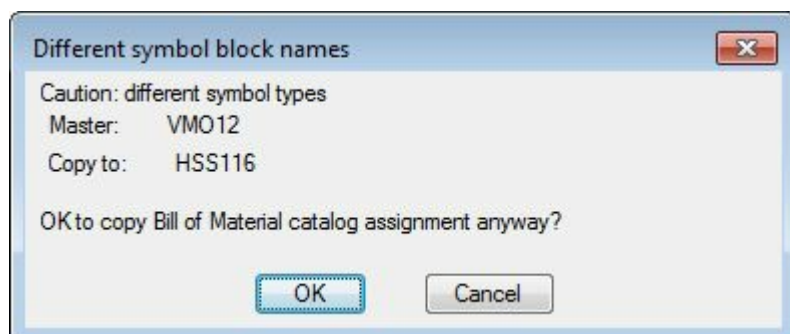

Figure-16. Different symbol block names dialog box
- Few of my friends might also get the **Different symbol block names** dialog box; refer to Figure-16. This dialog box comes if you are assigning properties to an incompatible component. For example, if you are coping properties of a motor to a switch then this dialog box will come. If it is need of your drawing to assign such properties then click on the **OK** button and then **Overwrite** otherwise cancel it and take your decision.